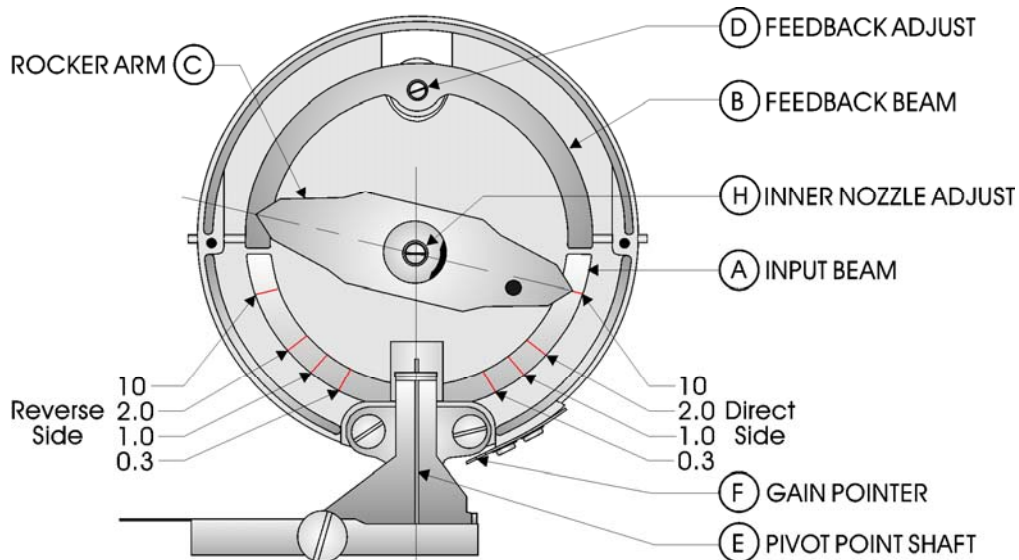

Figure 3-8 - Transmitter Calibration Sketch #3 (Gain = 10/Reverse)
8. With a pencil or permanent marker, place marks on the Input Beam “A” (see Figure 3-8 at 0.3**, 1.0**, 2.0** and 10** Gain Settings for both the Reverse and Direct sides.